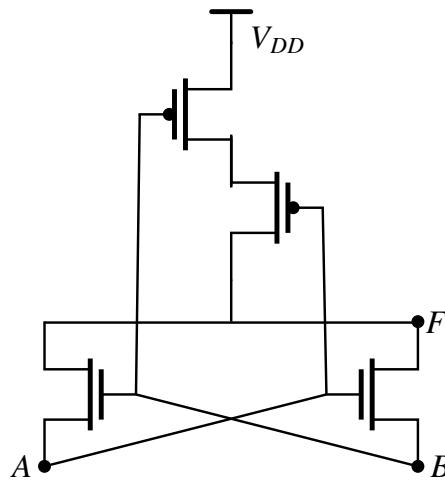

Fig. 5.34: Circuit Diagram
38. In the circuit shown in Fig. 5.34, A and B are the inputs and F is the output. What is the functionality of the circuit?